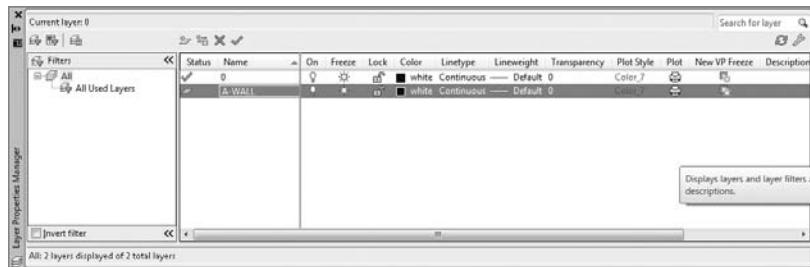

FIGURE 6.7 The Layer Properties Manager dialog box with a new layer named A-WALL
2. Enter A-WALL. Layer1 changes to A-WALL. The row for the A-WALL layer should still be highlighted (see Figure 6.7).